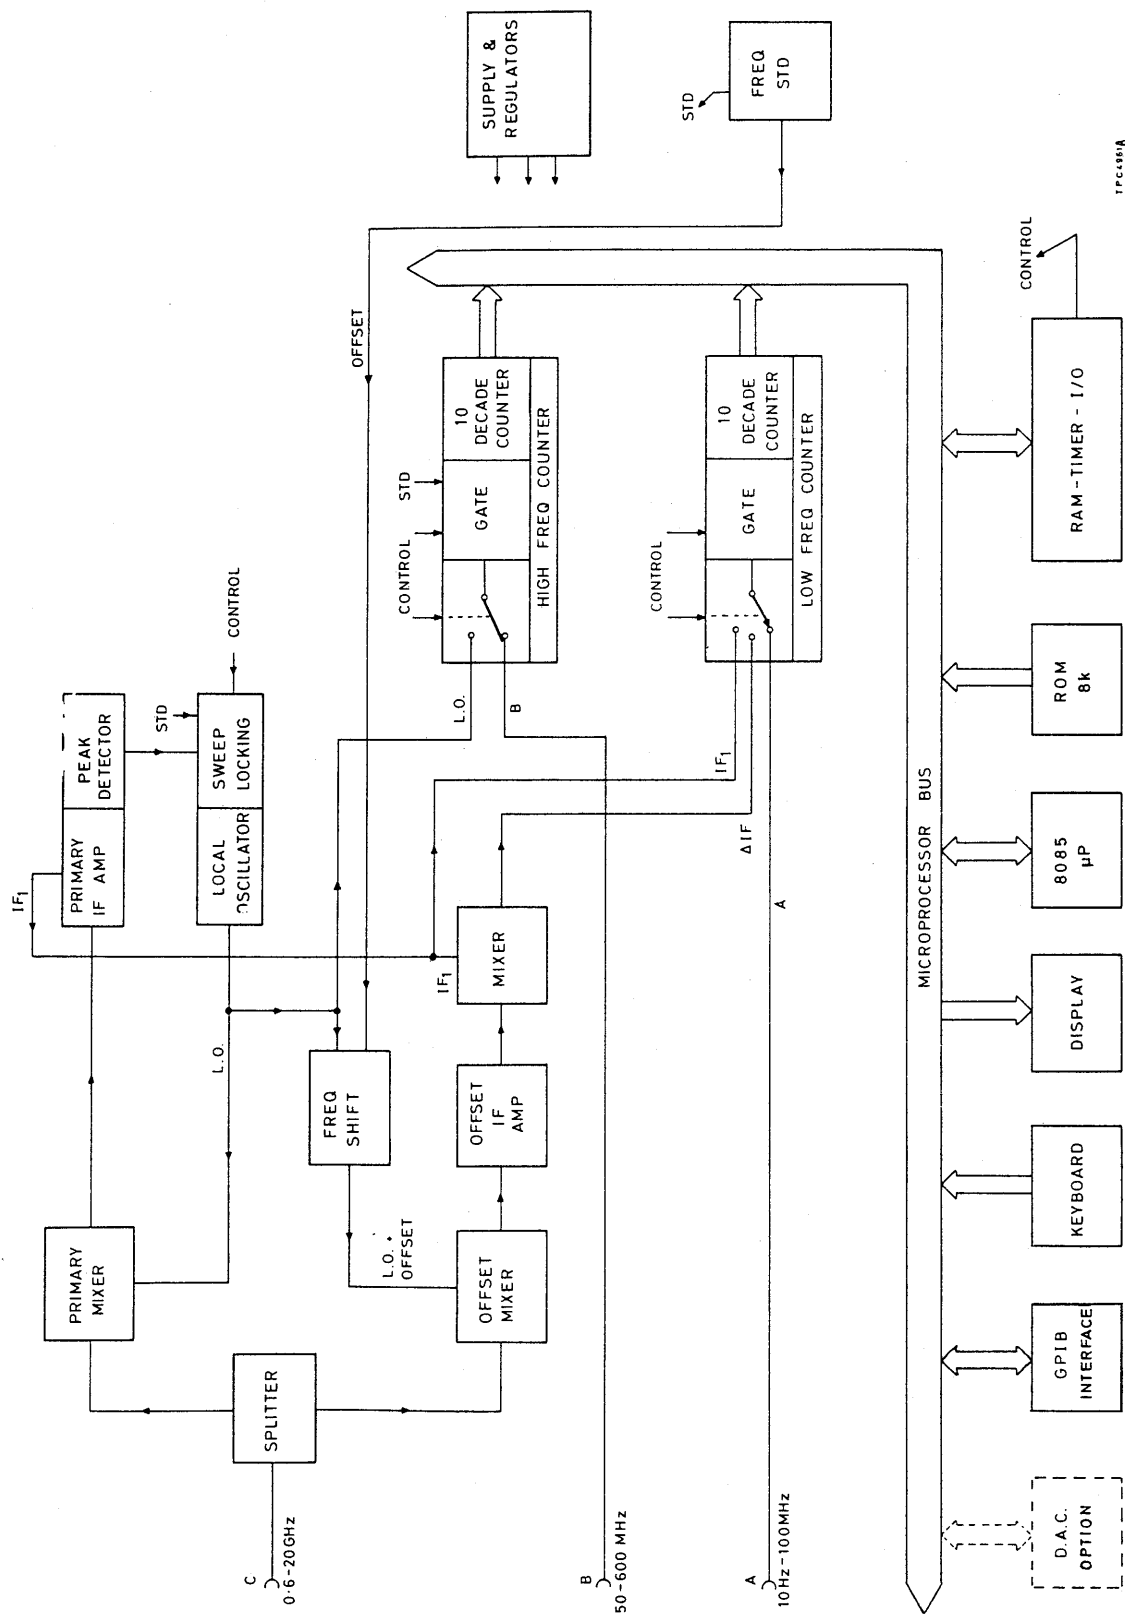

Fig. 1 2440 : Simplified block diagram
1. The following summary is an outline circuit description of 2440 and is intended to be read in conjunction with the simplified block diagram, Fig. 1. Detailed circuit descriptions and diagrams are given in Chap. 4-2 of the Service Manual.